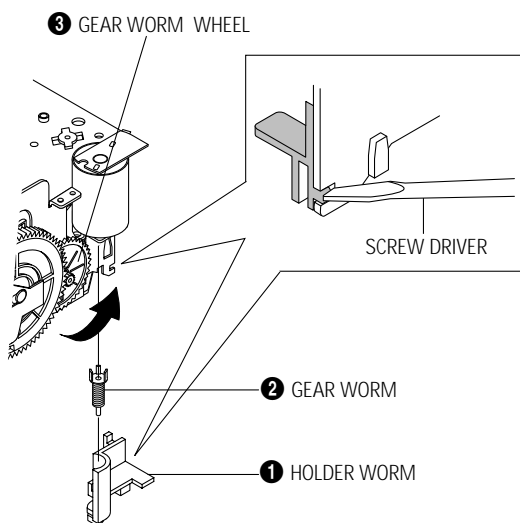

Fig. 2
- 1) Remove the Holder Worm ❶ and the gear worm ❷. (See Fig. 2)
- 2) Turn the Gear Worm Wheel ❸ counterclockwise in the direction of arrow with screw driver. (See Fig. 2)
- 4) Rotate Gear Worm Wheel ❸ counterclockwise using screw driver again up to the state of eject mode and then pick out the tape. (Refer to Fig. 2)